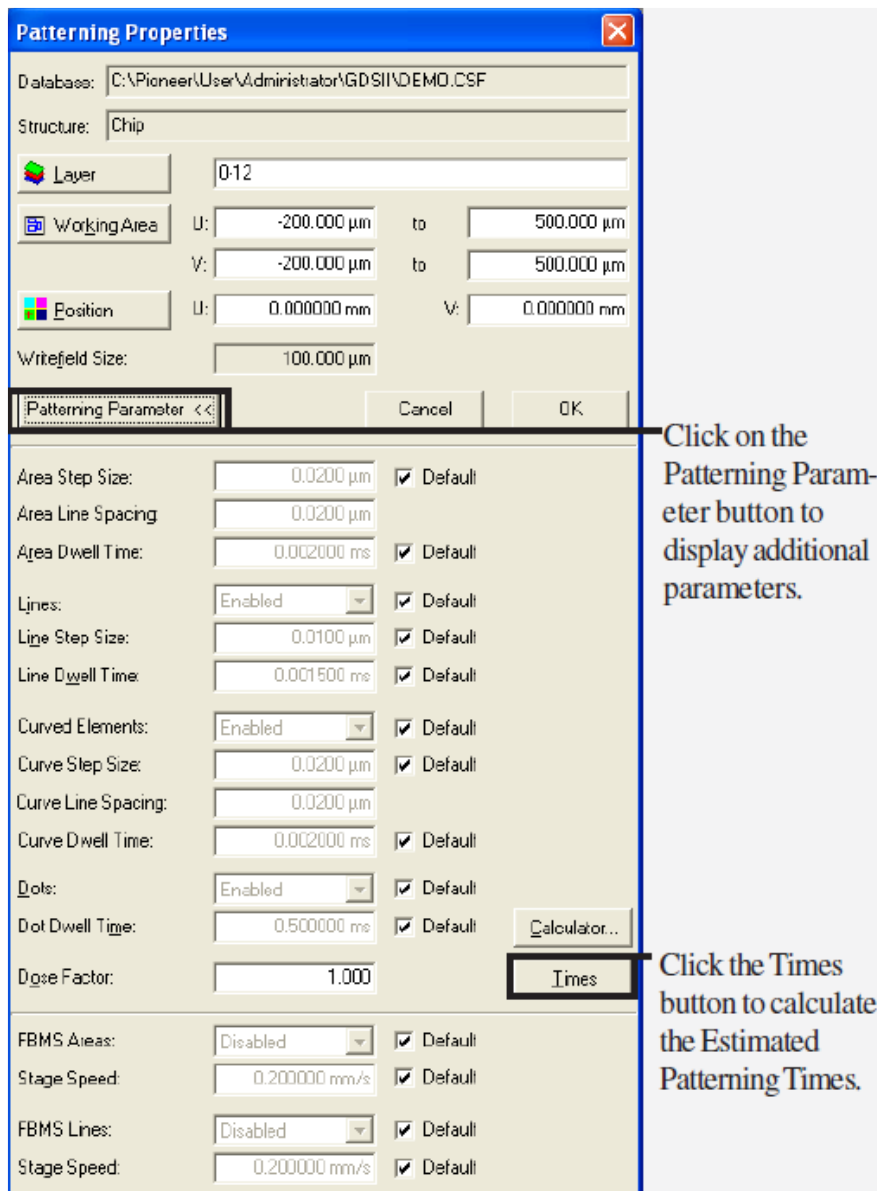

Figure 26: Patterning properties.
4. By right-clicking on the position list entry and selecting 'Properties' you can choose various exposure properties - see figure 26. Most importantly you can click on 'Times' which will calculate an estimate for the time it takes to expose your pattern. Note this down so that you will know when to come back to unload your sample.
5. Choose the Layers of your pattern that you want to expose using the layer button shown in figure 26.